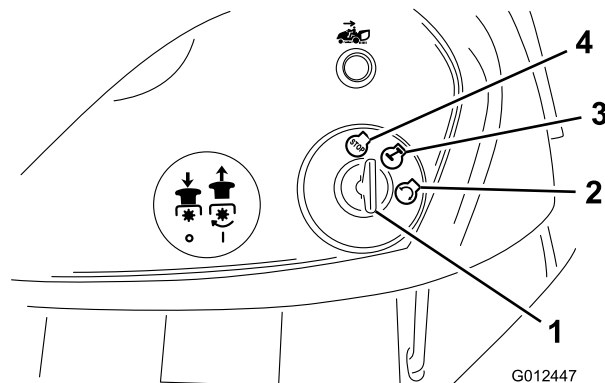

Figure 12
7. Turn the ignition key clockwise and hold it in the Start position (Figure 12).
2. Turn the ignition key to the Off position (Figure 12).